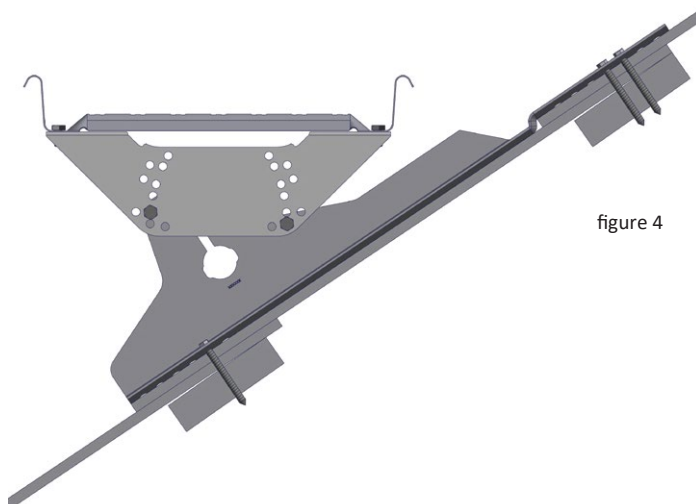

figure 4
- Mount the fasteners to the base of the wave-form under a transverse fold, in such way that the top end of the stair rises on to the top of upper minerit sheet. Screw fasteners to the battens with two 7x50 mm HPAC screws at the top end and one at the bottom end (figure 4). In order to avoid fracture of the minerit sheet, pre-drill hole to the minerit board for screws.